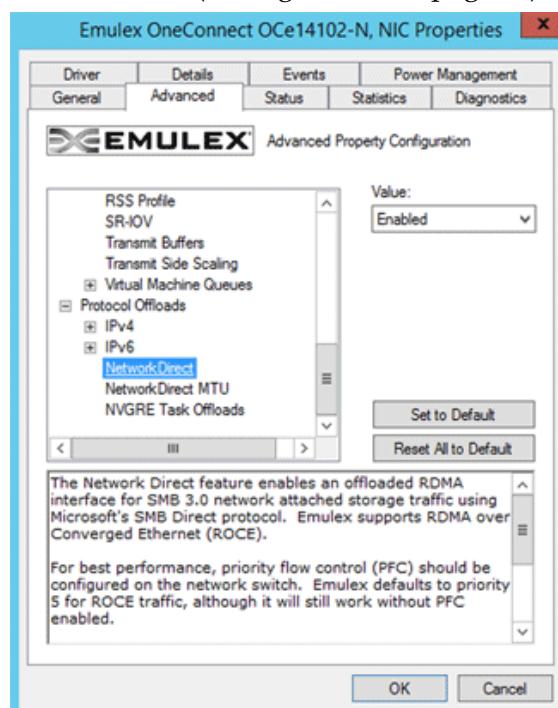

Figure 3-9 Advanced Property Configuration - RoCE-Enabled
- In the Advanced tab of the Network Property page, ensure that NetworkDirect is enabled (see Figure 3-9 on page 94).